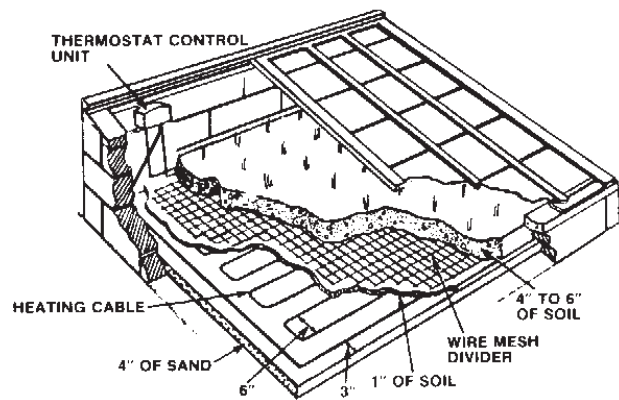

Figure 3. Electric hotbed with thermostatic control.
**Electric Hotbed** (Figure 3). Electric heating requires an insulated heating cable enclosed in a flexible lead sheath covering. About 2 feet of cable for each square foot of bed area is needed. Excavate the soil 2 or 3 inches below the frame level. Then put down 4 inches of cinders or sand as a base for the cable.